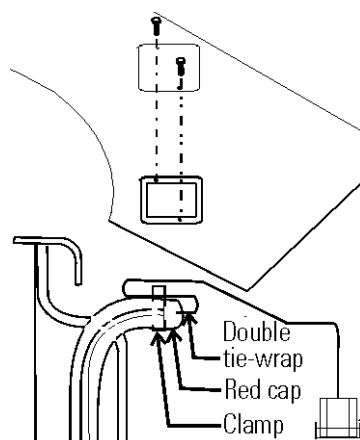

Figure 1-6. Alarms and LED Test
1. Referring to Figure 1-6, remove the access panel and remove clamp.